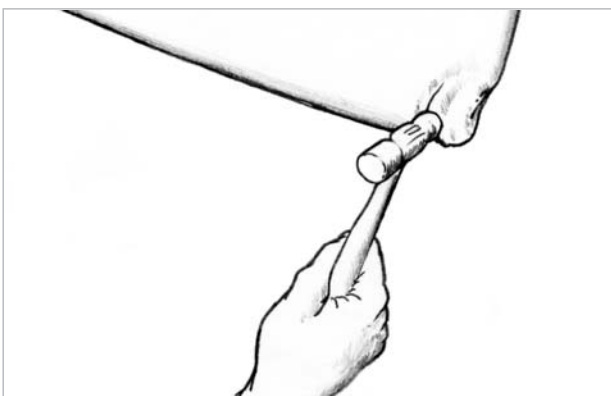

Figure 8-2 Use a ball-peen hammer, with repeated light taps to work the lead bulge back to its original shape.
3. Forge displaced lead toward voids with a ball-peen hammer. As the lead is deformed from an impact, it's common to find a bulge to one or both sides of a dent or gouge. Use repeated light taps to work the lead back to its original shape (*Figure 8-2*). Too heavy a blow will shear sections of lead. With experience, you will soon be able to gauge how much force you can use and how much lead can be moved before shearing occurs. Some alloys are more malleable and easier to forge than others.